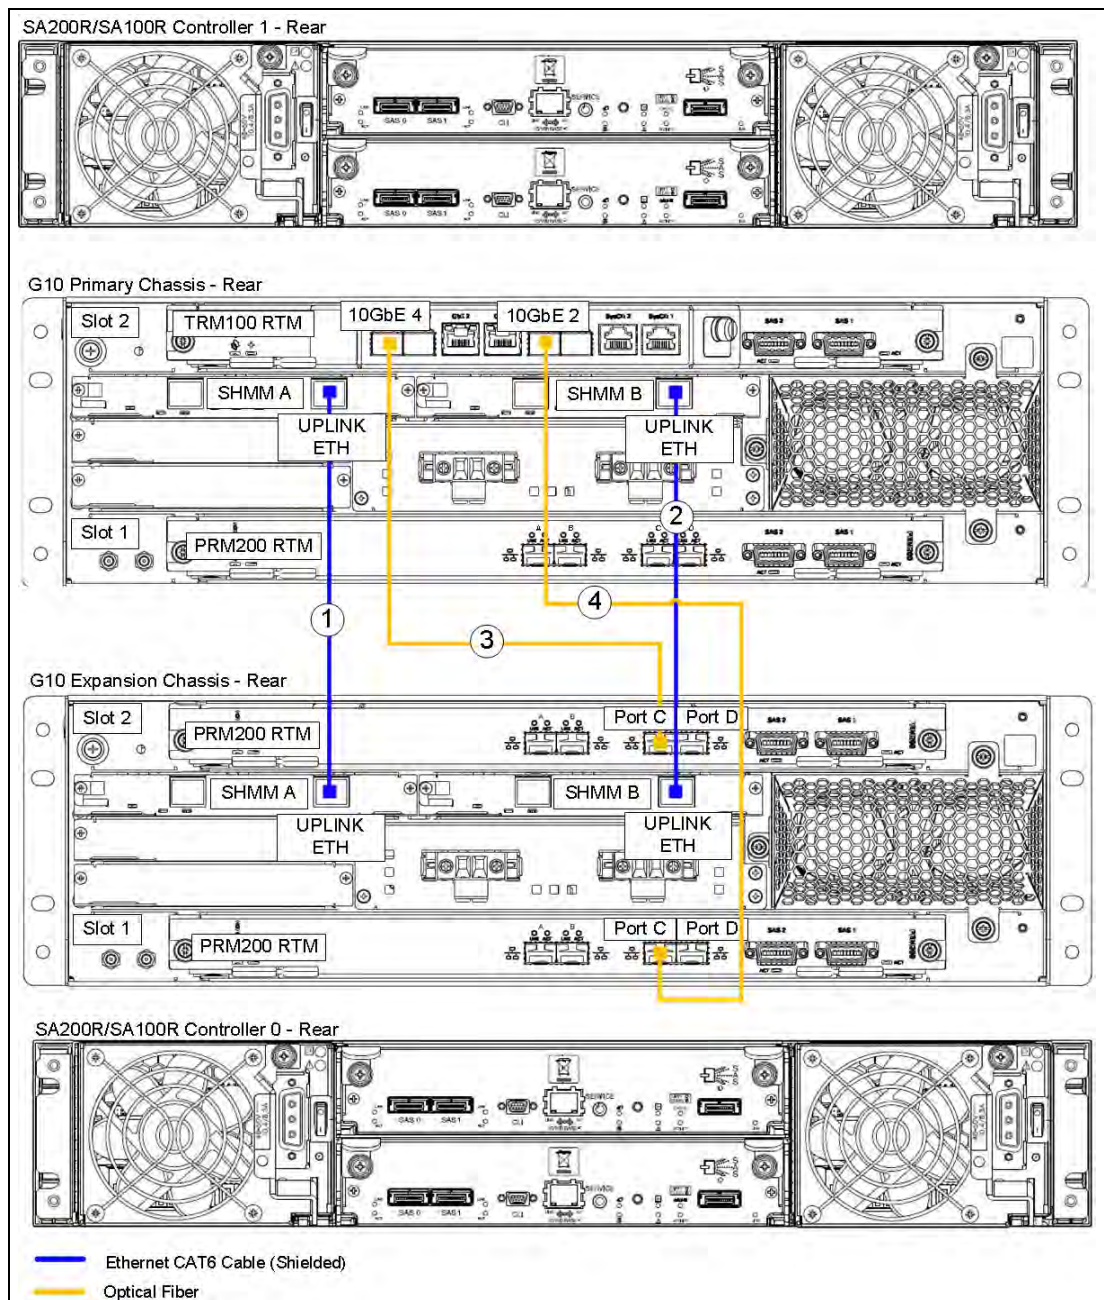

Figure 3.17 - Ethernet Connections Between G10s
4. Connect Ethernet cables between the primary and expansion G10 chassis as shown in Figure 3.17 and Table 3.13.